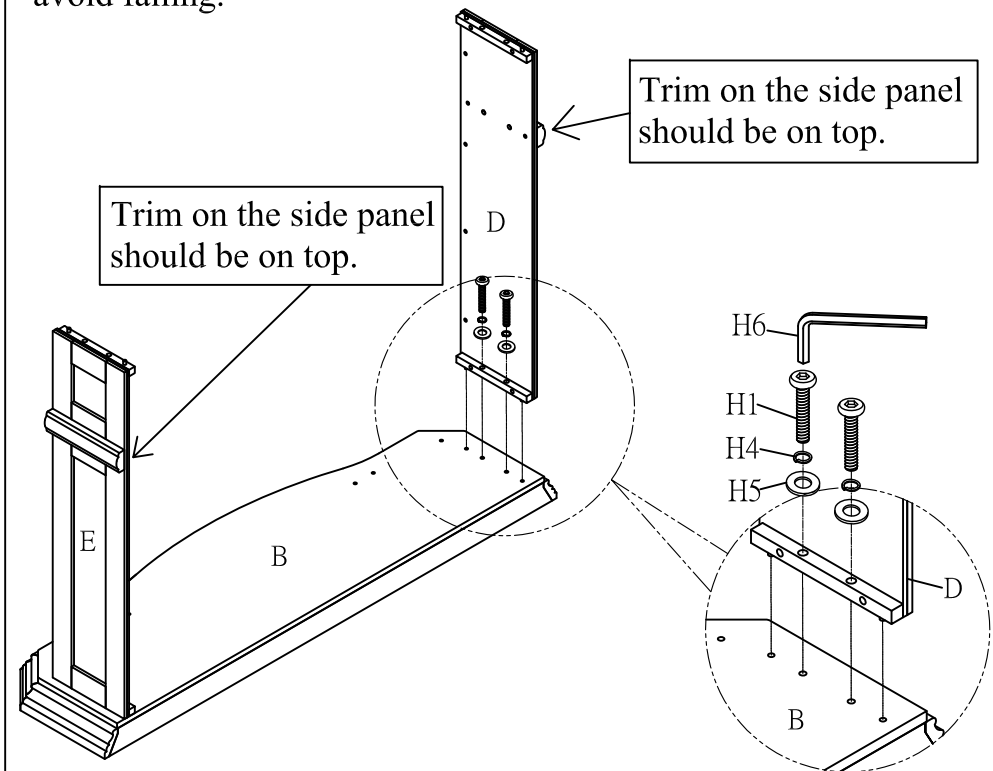

Figure 3
With assistance from other adults, place the tenons of Left Side Panel (D) into the corresponding holes of Base (B). Make sure the Side Trim (F) is on top and attach Left Side Panel (D) to Base (B) using Long Bolt (H1), Spring Washer (H4), Flat Washer (H5) and Allen Wrench (H6) as shown in Figure 3. DO NOT fully tighten bolts at this time. Attach Right Side Panel (E) to Base (B) using the same process.